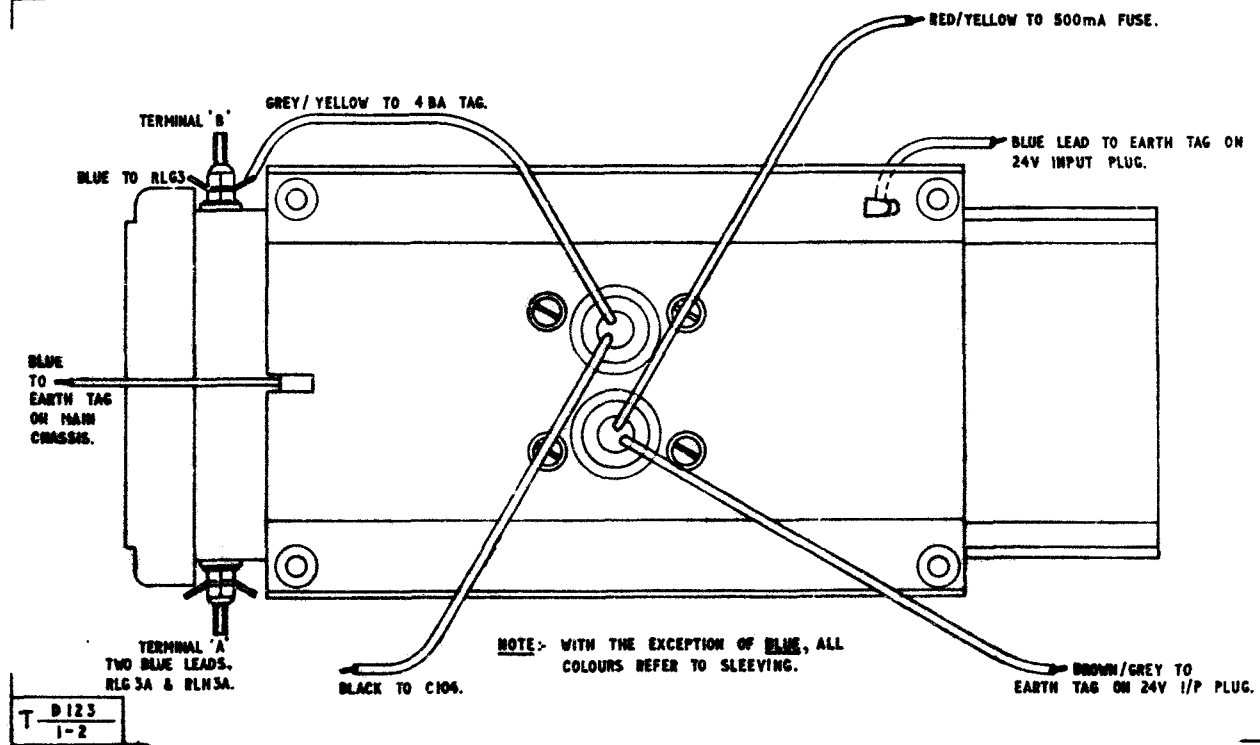

Fig 2 - Wiring to rotary transformer
19. To remove the rotary transformer. (Refer to Fig 2):-